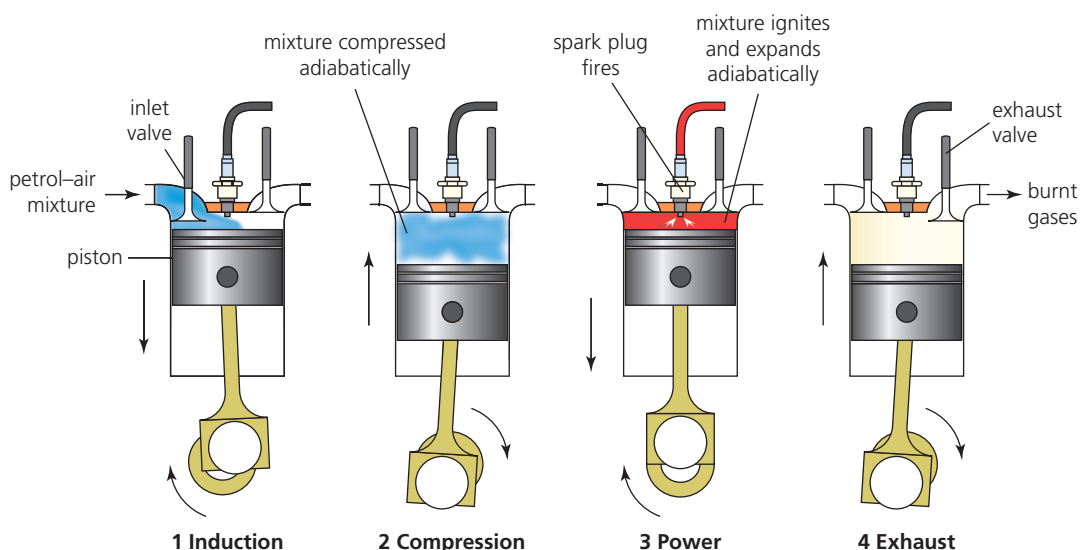

Figure 4 The four main stages in the cycle of a four-stroke petrol engine.
The following sequence of processes take place, as illustrated in Figure 4.
- A' to A The inlet valve opens and the exhaust valve closes. The piston moves down. During this time, a mixture of typically 7% petrol vapour and 93% air at about 50°C is drawn into each cylinder. This is the *induction stroke* (stage 1 in Figure 4).
- A to B The piston moves up, compressing the gas adiabatically. The temperature rises to 300°C . This is the *compression stroke* (stage 2 in Figure 4).
- C to D The increased pressure pushes the piston down as the gas expands adiabatically, decreasing both the pressure and temperature. This is the *power stroke* (stage 3 in Figure 4).
- A to A' As the piston moves up, the remaining gas mixture is expelled. This is the *exhaust stroke* (stage 4 in Figure 4).
It is crucial to note an important difference between the indicator diagram and the real cycle of any one piston. One complete path around the indicator diagram does not correspond to one up-and-down movement of a piston. You can see from Figure 4 that, during the induction stroke, the piston is descending as it pulls on the fuel–air mixture. But it also descends during the power stroke. So we should note the following: